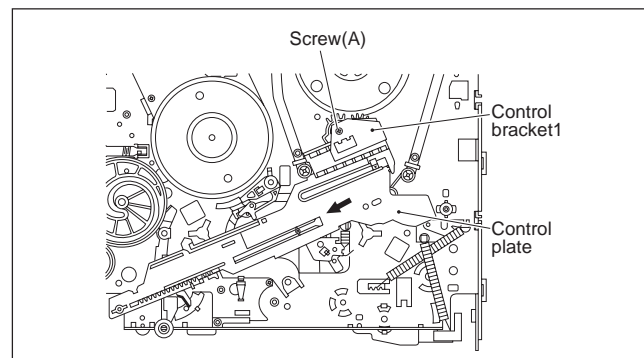

Fig.3-2-15a
- (1) Remove the screw (A) retaining the control bracket 1 and remove the latter.
- (2) Slide the control plate as indicated by the arrow and remove the control plate. (See Fig.3-2-15a.)